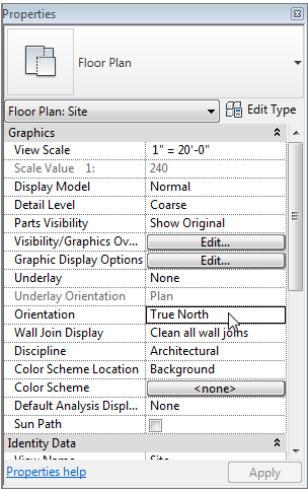

FIGURE 18.28: Orienting the site to true north
1. In the Properties dialog for the view, change Orientation to True North, as shown in Figure 18.28.